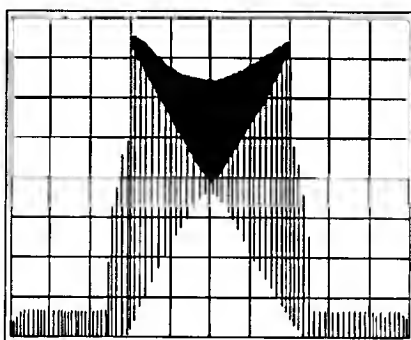

Fig 3.2 Spectrum Analyzer Display
3.6.1.10 Set the 9087's output level to +0 dBm, frequency to 650 MHz, and FM to 100-kHz peak deviation and 1 kHz rate (INT 1k). Set the spectrum analyzer to 650 MHz center frequency, 50 kHz span/division and a 0dBm reference level. The analyzer display should be similar to Figure 3.2.